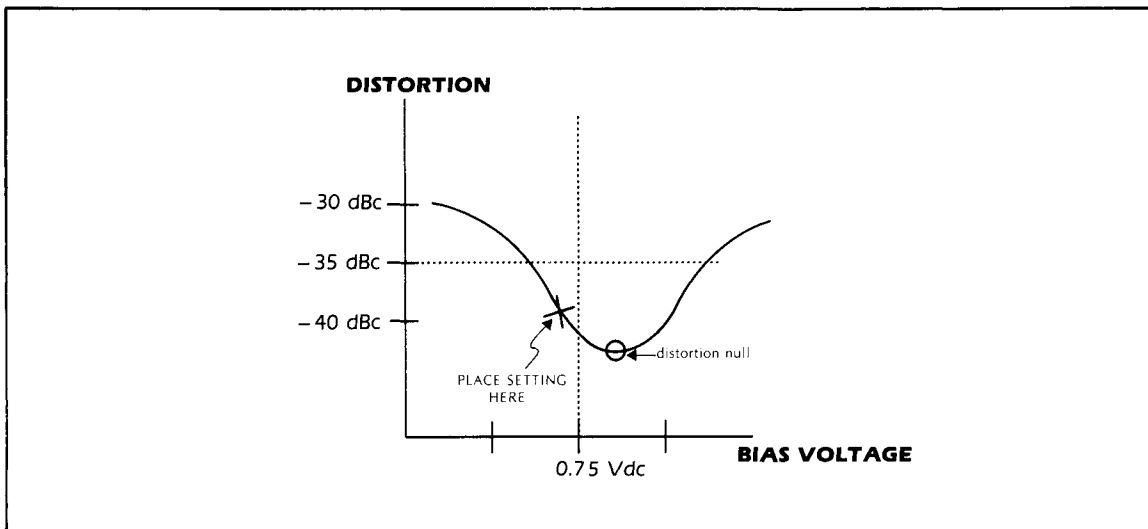

Figure 3-22. Third Harmonic Distortion at 13 MHz
8. There are two bias settings that will minimize the third harmonic distortion to an acceptable level (Figure 3-22). Adjust to the smaller of the two levels to avoid straining the amplifier.
absolute value of the bias voltage should be ≤ 0.7 Vdc. See Figure 3-22.